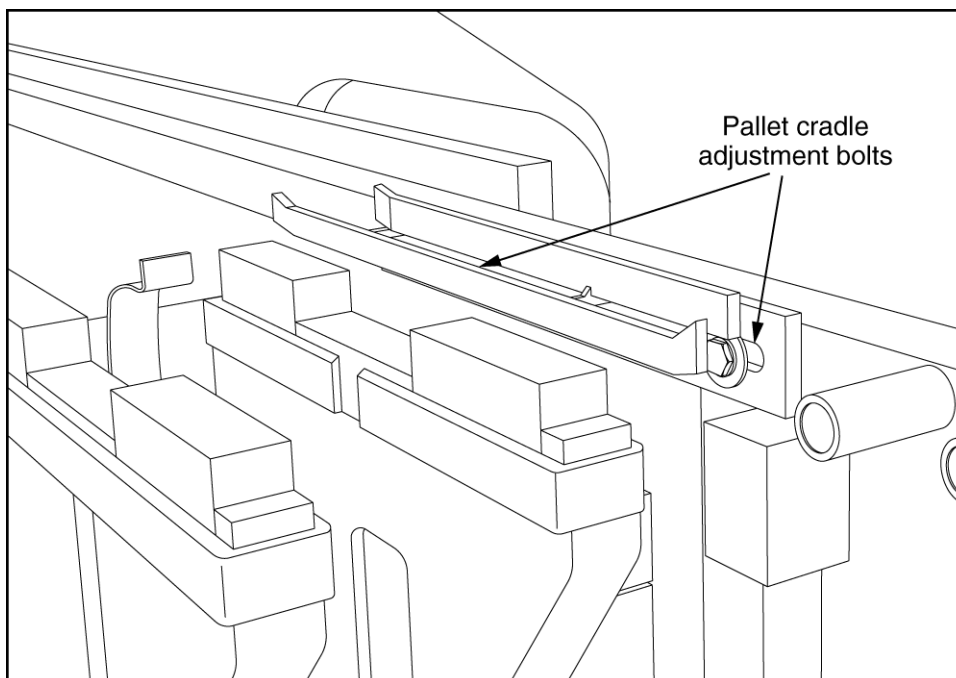

Figure 6.9 ADJUSTING THE PALLET CRADLE
6.2.3 Adjust pallet cradles to be centered with pallet receiver rubbers (see figure 6.9).